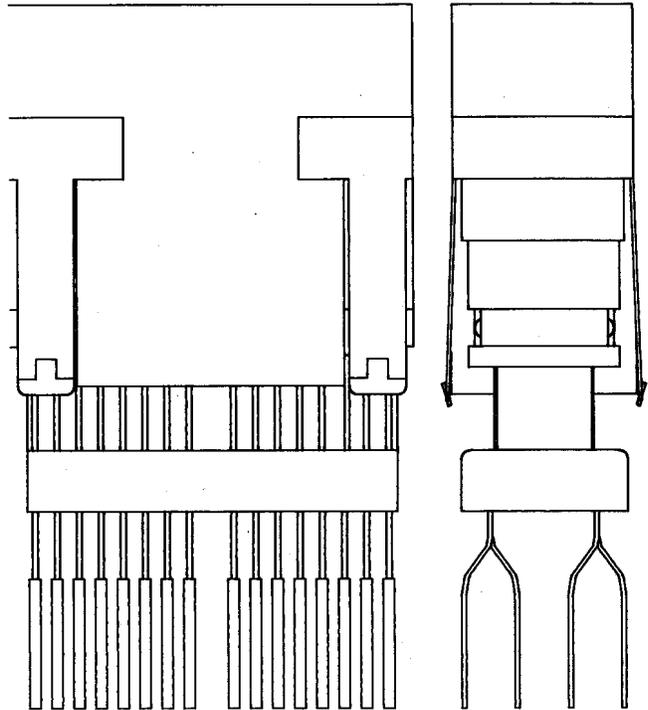

Fig. 16—217A or B Connector
**2.09 217A and B:** The 217A and B connectors (Fig. 16) consist of two molded blocks of insulating material each containing a row of 16 wire springs assembled together. The contact end is protected within a retainer. The terminals are arranged for mechanically wrapped connections. These connectors are arranged to mate with the 424A and C plugs and are used in the No. 1 Electronic Switching System (ESS). The 217B also is equipped with a handle that covers the contact spring assembly.